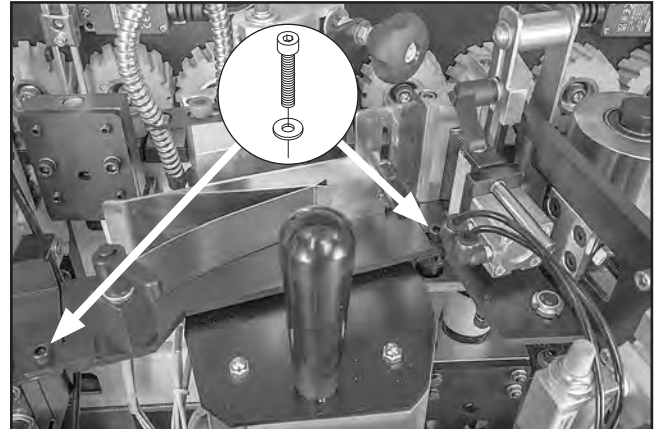

Figure 92. Location of edgebanding intake guide cap screws.
4. Loosen (2) cap screws securing edgebanding intake guide (see **Figure 92**), then remove intake guide and glue pot lid.